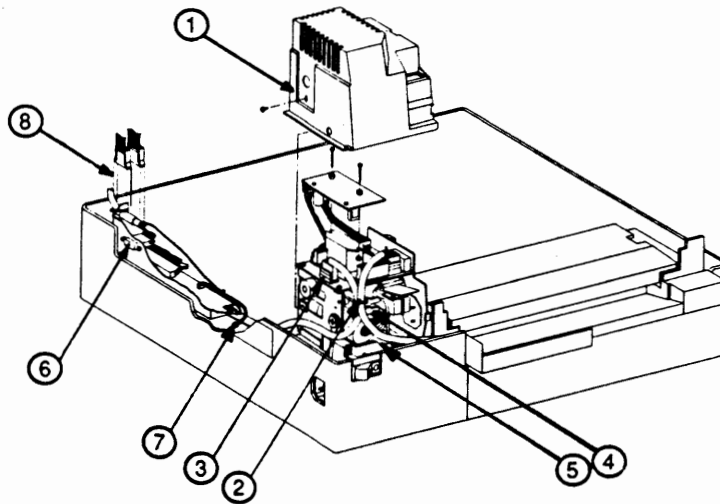

FIGURE 2-40
13. Remove the mounting connector plate (Figure 2-40, #6) as follows:
- a) Disconnect the grey-and-white ground wire that comes from the mounting connector plate (Figure 2-40, #7) by removing its grey screw.
14. Unplug the two white-and-black cables from the connectors behind the mounting connector plate (Figure 2-40, #8).